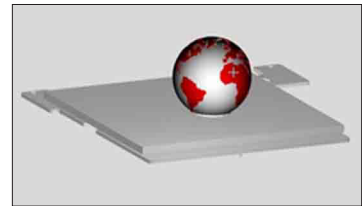

Fig. 79
- Left click to color the shell. (Fig. 79)